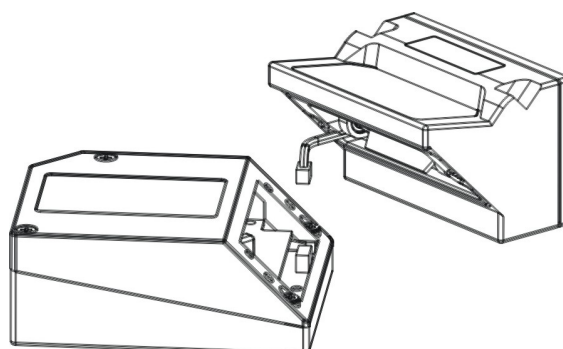

Figure 3
- 3) Bring the OM2000 close to the scanner and insert the cable into the power connector of the scanner (See Figure 3).